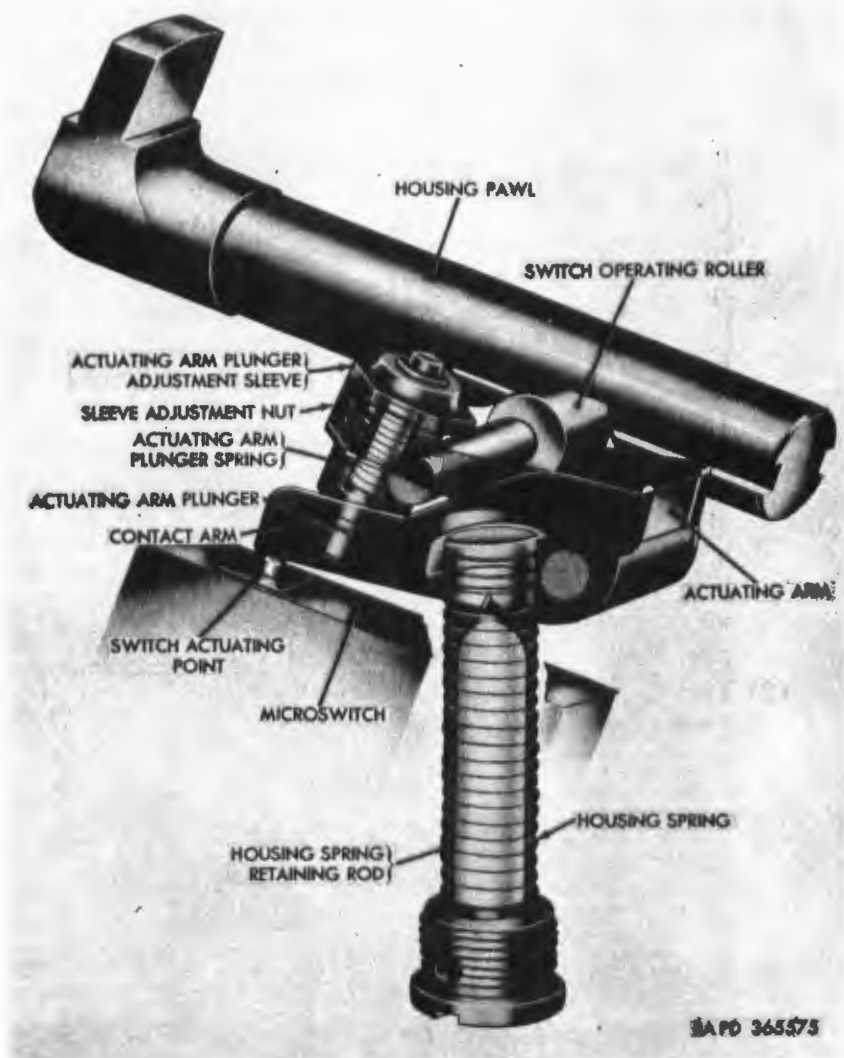
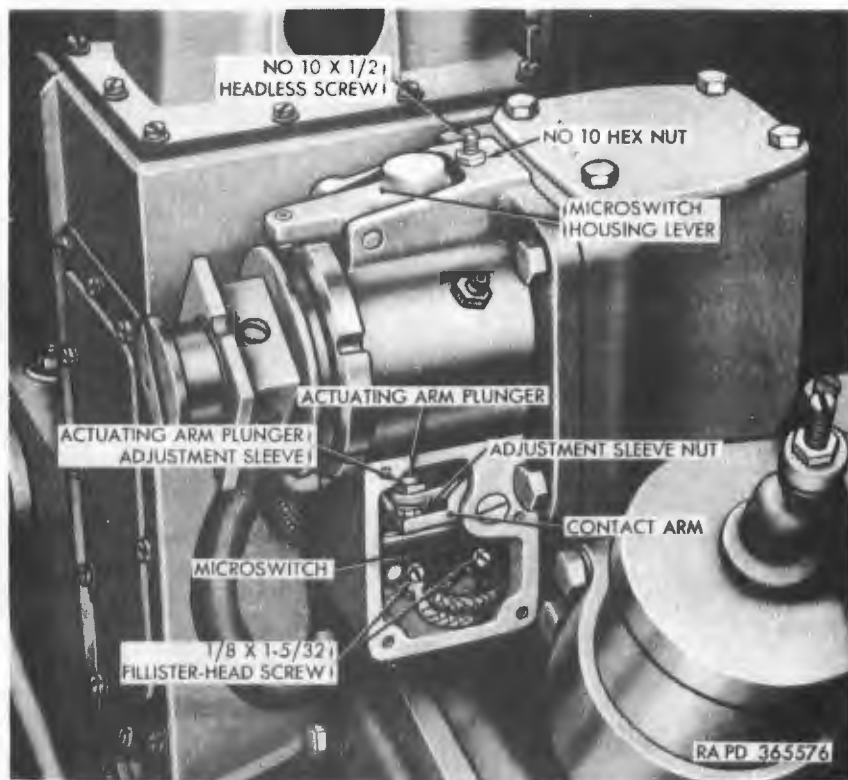

Figure 355. Functioning of microswitch actuating parts.
Figure 356. Adjustment of actuating arm plunger—elevation side.
- (1) The hand elevating gears are provided with a micro-switch (fig. 355), the function of which is to disconnect all power to the oil gears while the weapon is under manual operation. When the hand operating crank adapter (fig. 354) is pushed into the operative position, the crank adapter forces the housing pawl (fig. 355) to ride over the switch operating roller and pivot the actuating arm against the housing spring. As the front of the actuating arm is forced downward, it carries the spring-operated actuating arm plunger. The arm plunger bears against the contact arm (fig. 355) which depresses the actuating point of the switch to shut off all power to the oil gears. When the hand operating crank adapter (fig. 354) is in the nonoperative position, the groove in the housing pawl (fig. 355) is over the switch operating roller allowing the housing spring to pivot the front end of the actuating arm upward. As the end of the actuating arm swings up, it carries the actuating arm plunger, releasing pressure of the contact arm on the switch actuating point. This causes the microswitch to close the circuit and make power available to the oil gears.
- (5) Push the hand operating crank adapter (fig. 354) into the operative position. The switch actuating arm (fig. 355) should depress the actuating point of the microswitch. If the switch actuating point has not been depressed, loosen the adjustment sleeve nut (fig. 356) and adjust the plunger adjustment sleeve until the microswitch is actuated, and tighten the nut. Adjustment is correct if the microswitch is actuated when the external and internal gears are one-fourth of an inch apart. Adjust the plunger adjustment sleeve if distance between external and internal gears is correct. Position gasket and cover and secure with five No. 10 x $\frac{1}{2}$ fillister-head screws and No. 10 lockwashers.
- (6) Perform an inspection test on microswitch by leaving the hand operating crank adapter on the traversing mechanism set for power operation (disengaged) and the hand-crank adapter on the elevation side set for handcrank operation (engaged).
- (a) Remove cover and gasket ((4) above).
- (b) Remove the two fillister-head screws (fig. 356) and lockwashers that secure the switch to the housing and withdraw the microswitch from the housing.
- (d) Secure the microswitch to the microswitch housing with two $\frac{1}{8} \times 1\frac{5}{32}$ fillister-head screws (fig. 356) and No. 6 internal-teeth lockwashers. The contacting point on the switch must be on top and in line with the actuating arm plunger.
- (7) Check the effort required to move the hand operating crank adapter (fig. 354) into operative and nonoperative positions; effort should be moderate. To engage or disengage properly, splines must be clean and free from burs, nicks, foreign material, or congealed lubricants. Check that microswitch housing lever (fig. 356) holds handcrank adapter in the disengaged position during power operation. If necessary, adjust by loosening the No. 10 hex nut (fig. 356), loosening the No. 10 x $\frac{1}{2}$ head-